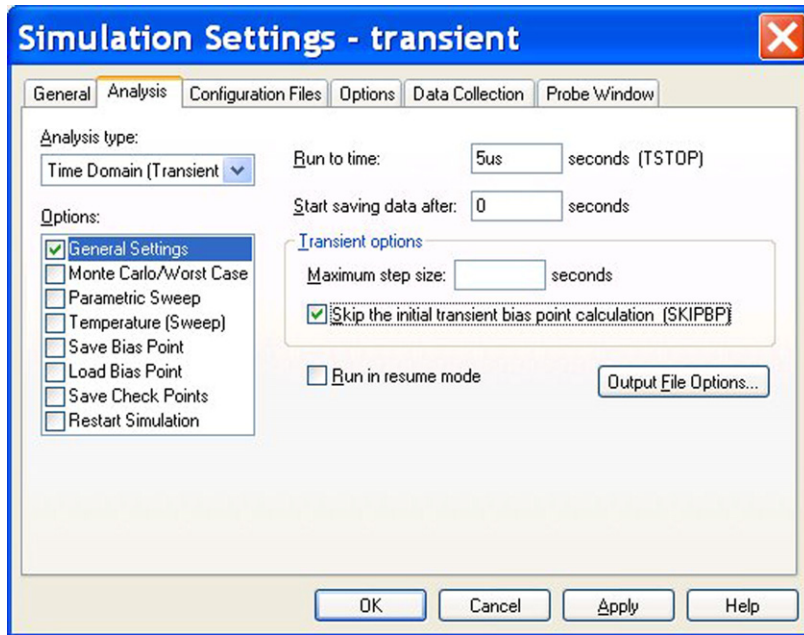

FIGURE 12.5 Skipping the initial bias point calculation.
6. You can place an initial condition, IC1 part from the special library to ensure that at time $t = 0$ s, the voltage across the capacitor is 0 V, as in Chapter 7, Exercise 2. Alternatively, in this example, check the **Skip the initial transient bias point calculation** in the Simulation profile (Figure 12.5) and run the simulation.